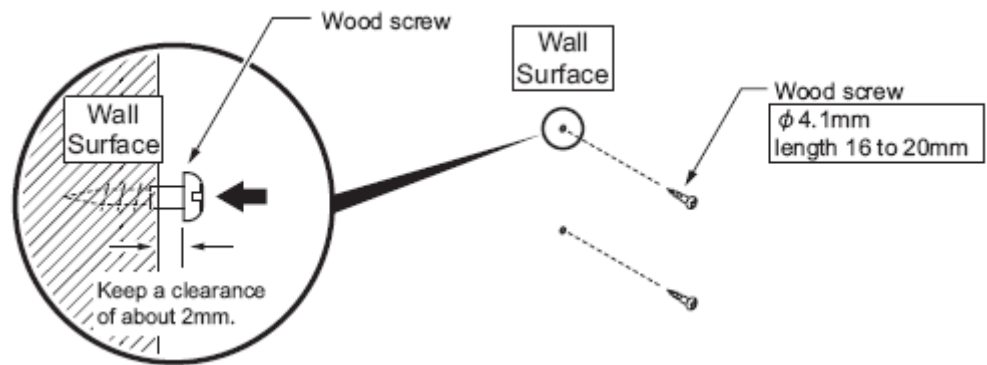

Figure 5-144 Installing Wood Screws
- Keep a clearance of about 0.08" (2mm) between each wood screw and the wall (refer to Figure 5-144 Installing Wood Screws on page 5-125).